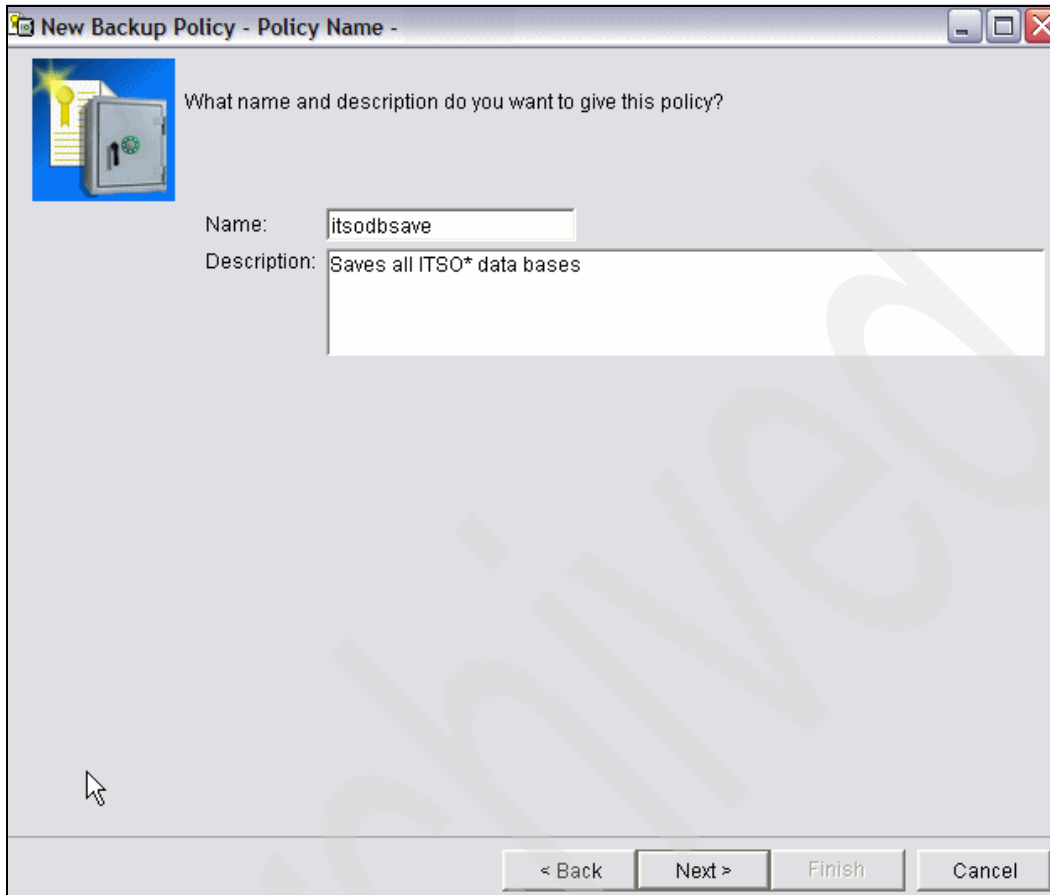

Figure 7-14 Create a policy name
1. Save all the ITS0 libraries (their names start with DBITS0). Fill in the backup policy Name and Description, as shown in Figure 7-14 on page 346 (in this scenario, the policy is named ITS0DB).